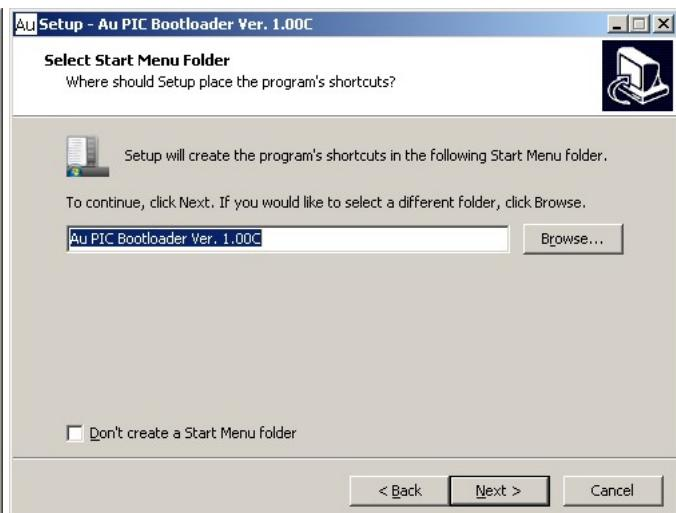

Figure C-5
5. "Select Start Menu Folder" window will show up. Use default setting "AU PIC Bootloader", then click "next" (Figure C-5).